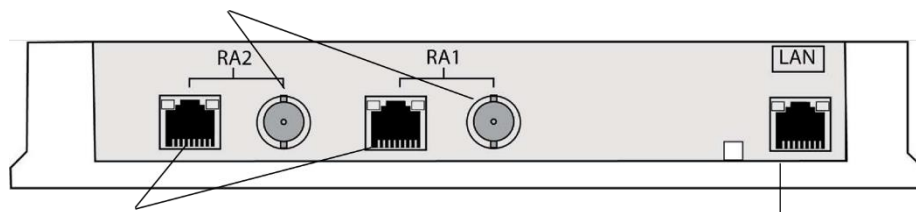

Figure 5: SMART HOPPING® 2.0 Access Point 1.4GHz connectors
1. Connect the first RA to the AP using the UTP and coaxial cable connectors labeled **RA1** in figure 5 below.
2. Connect the second RA to the AP using the UTP and coaxial cable connectors labeled **RA2** in figure 5 below.